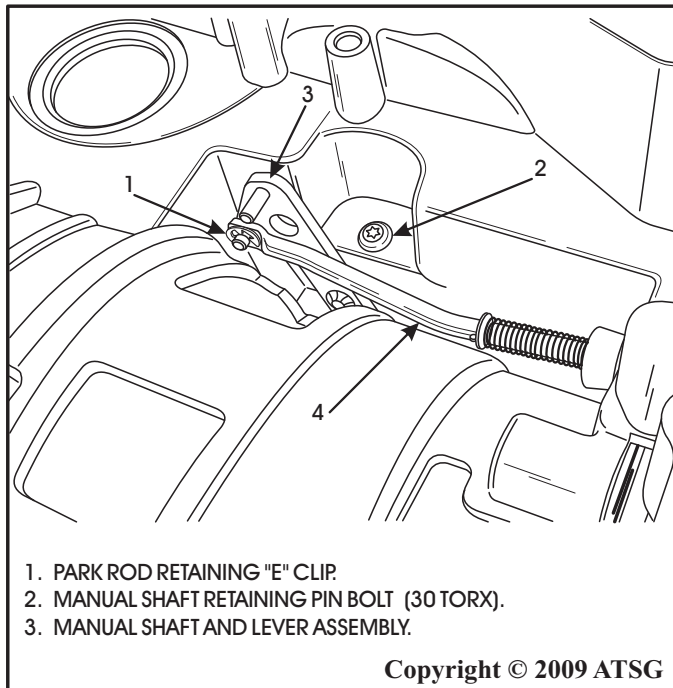

Figure 48
7. Install the manual shaft and lever assembly retaining pin bolt, using a 30 Torx bit, torque to 28.2 Nm (250 in lbs). (See Figure 48)
8. Install park rod through park rod guide and the parking pawl, and onto the pin on manual lever. Refer to Figures 48 and 49.
9. Install the retaining "E" clip and insure that it is fully seated as shown in Figure 48.